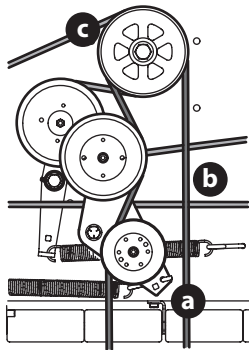

Fig. 57
- Using a 1/2" drive in the idler pulley bracket (a), turn the wrench towards the right of the mower and slide the PTO belt (b) off the PTO pulley (c) (Fig. 57).